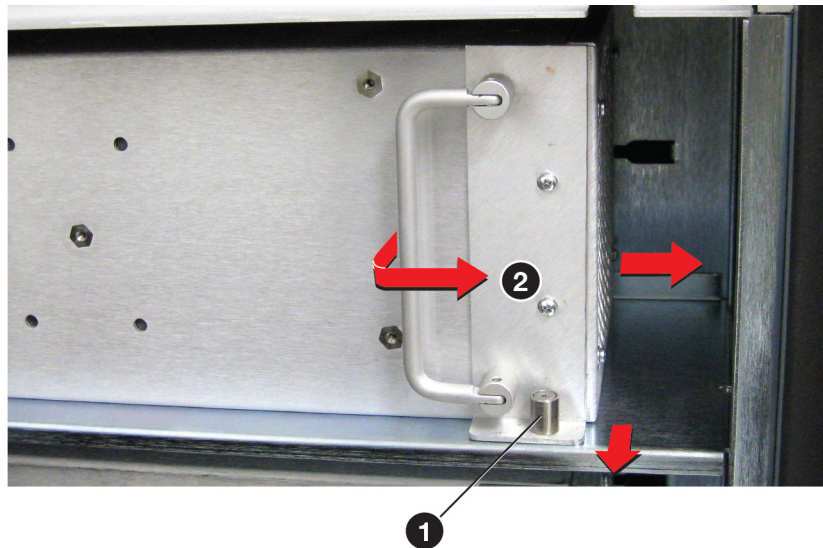

Figure 41. Removing a Power Supply Assembly
2. Use an Extron Tweezer or small screwdriver to remove the locking screw (see figure 41, ❶).